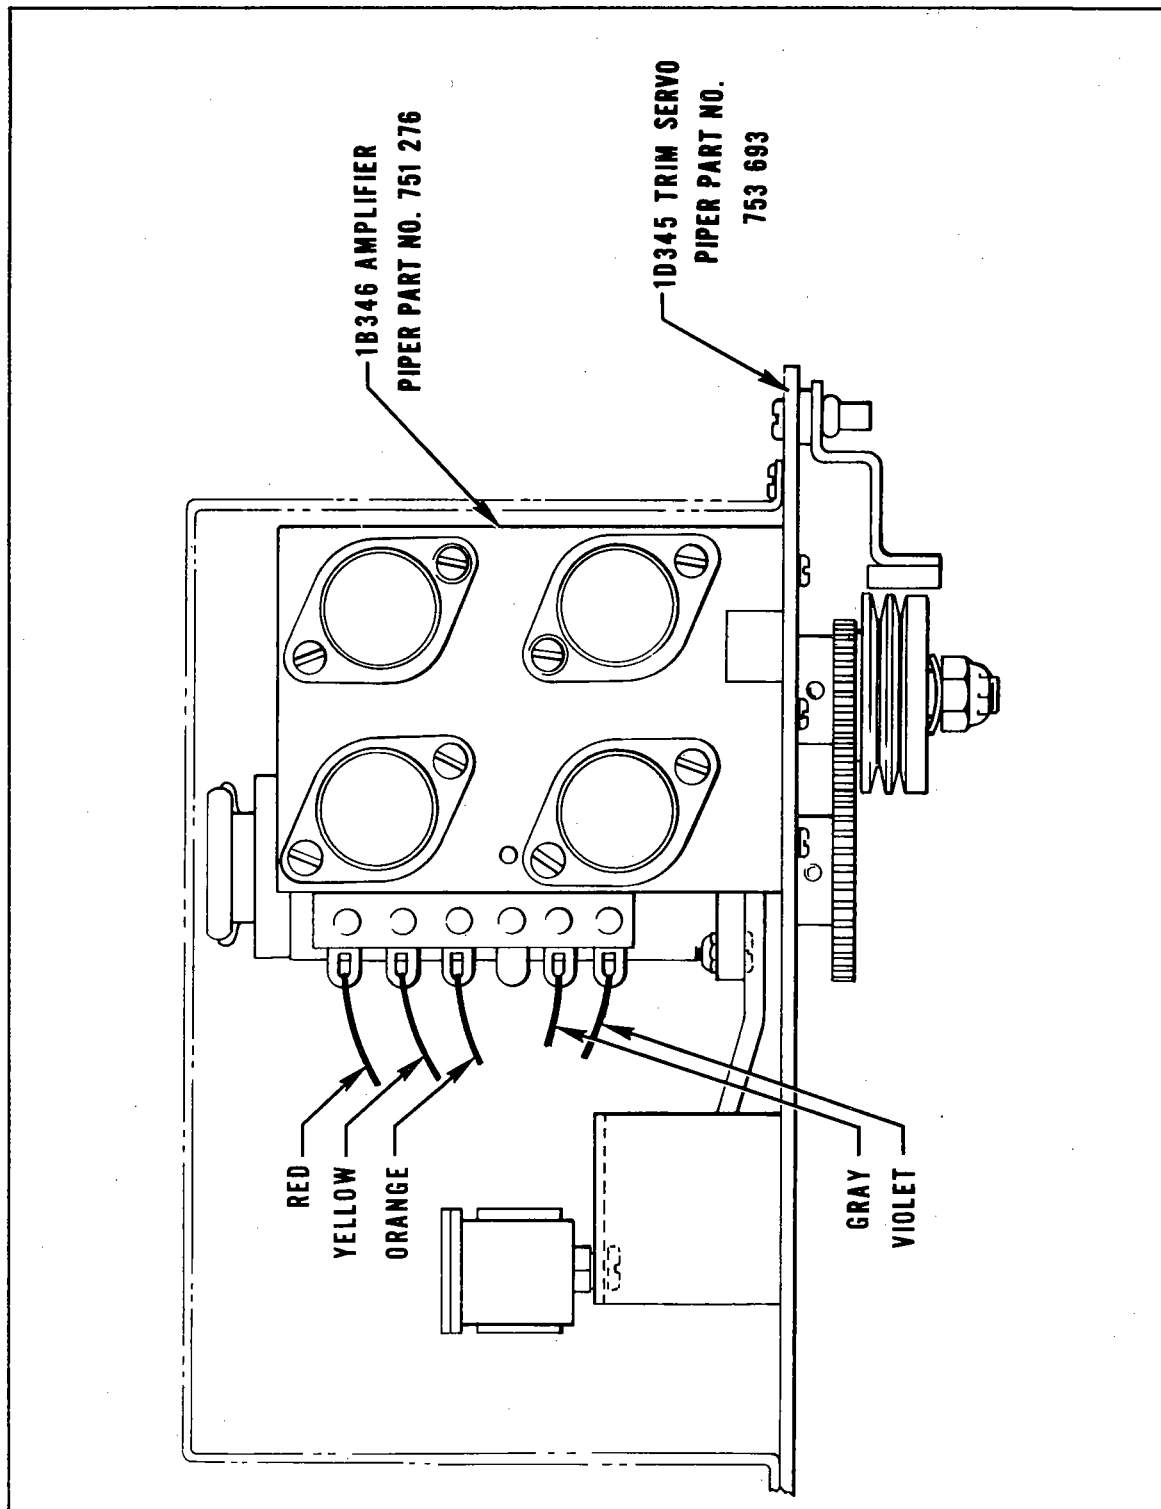

Figure 9-11. Trim Servo Amplifier Replacement (1D345)
9-30. REPLACEMENT OF TRIM AMPLIFIER ON 1D345 TRIM SERVO. (Refer to Figure 9-11.)
- f. Solder the five wires previously removed to the trim amplifier terminal strip as shown in Figure 9-11. The soldering should be done with a hot iron and quickly so as not to loosen the wires already soldered in the eyelets of the terminal strip.